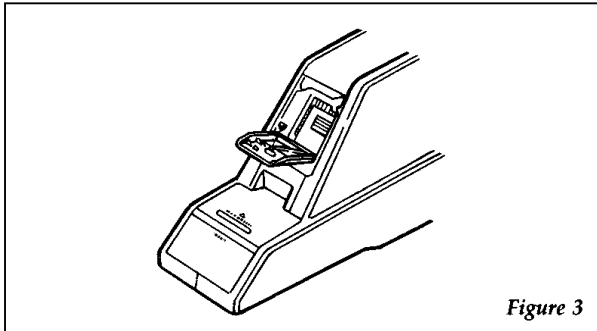

Figure 3
5. Once the transmitter is installed, the actuation peg on the door in line with your transmitter button may need to be adjusted for proper function. This can be done using the button height adjustment pegs (located on the compartment door). Add one peg at a time until pressing the door actuates the transmitter button (Figure 3).